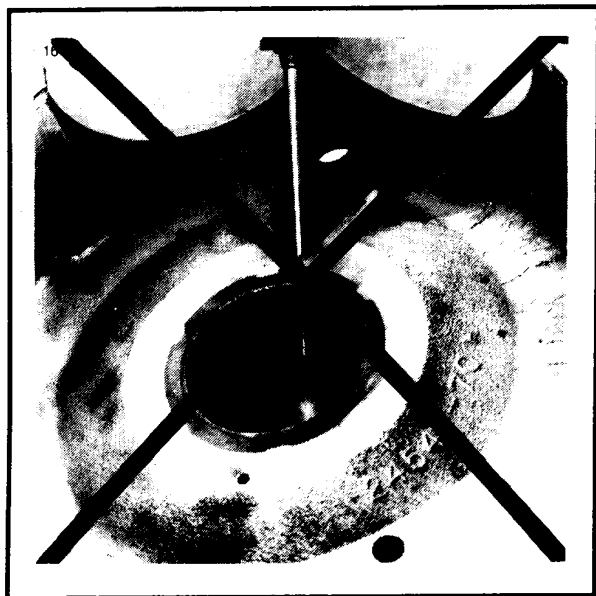

Figure 1. (Figure 3-45.) Removing Lock ring
See Figures 1, 2. (Figures 3-42, 3-45 in both Big Twin Service Manuals.) On Late 1990 and later vehicles that do not have the cast-in steel insert, DO NOT REMOVE THE LOCK RING (12). There is no longer any need to remove the lock ring.